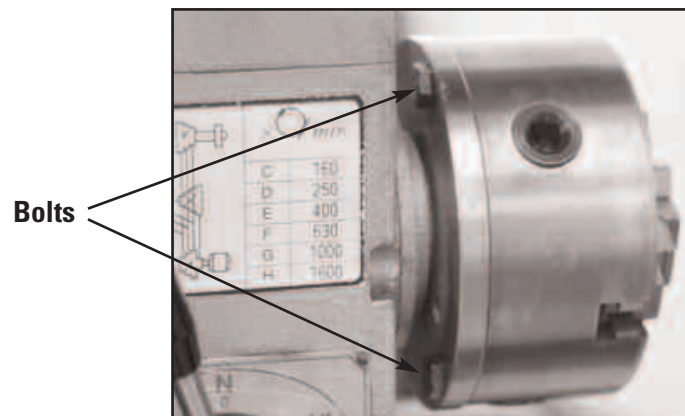

Figure 5.2 The chuck attaches to the spindle flange with three bolts. The one bolt located on the other side of the spindle does not show.
1. Remove the three bolts behind the chuck that hold it to the spindle flange (Figure 5.2). The chuck will come off. Don't let it fall onto the ways. Placing a board between the chuck and ways will protect the ways.